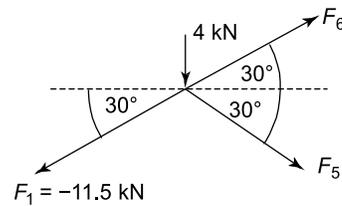

Figure 6.37
Consider joint (3); see Figure 6.37.